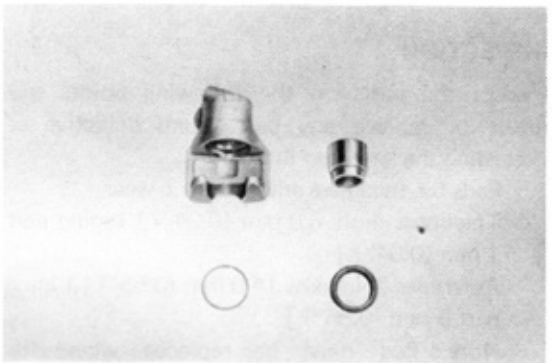

Fig. 8-45 Inspection
- (1) Using screw extractor (tip diameter about 2.5 mm [0.1"] and having reverse screw), remove the extractor by method shown in Fig. 8-45.
- (2) Drive in the new union seat, using a bar about 8 mm (5/16") in diameter.